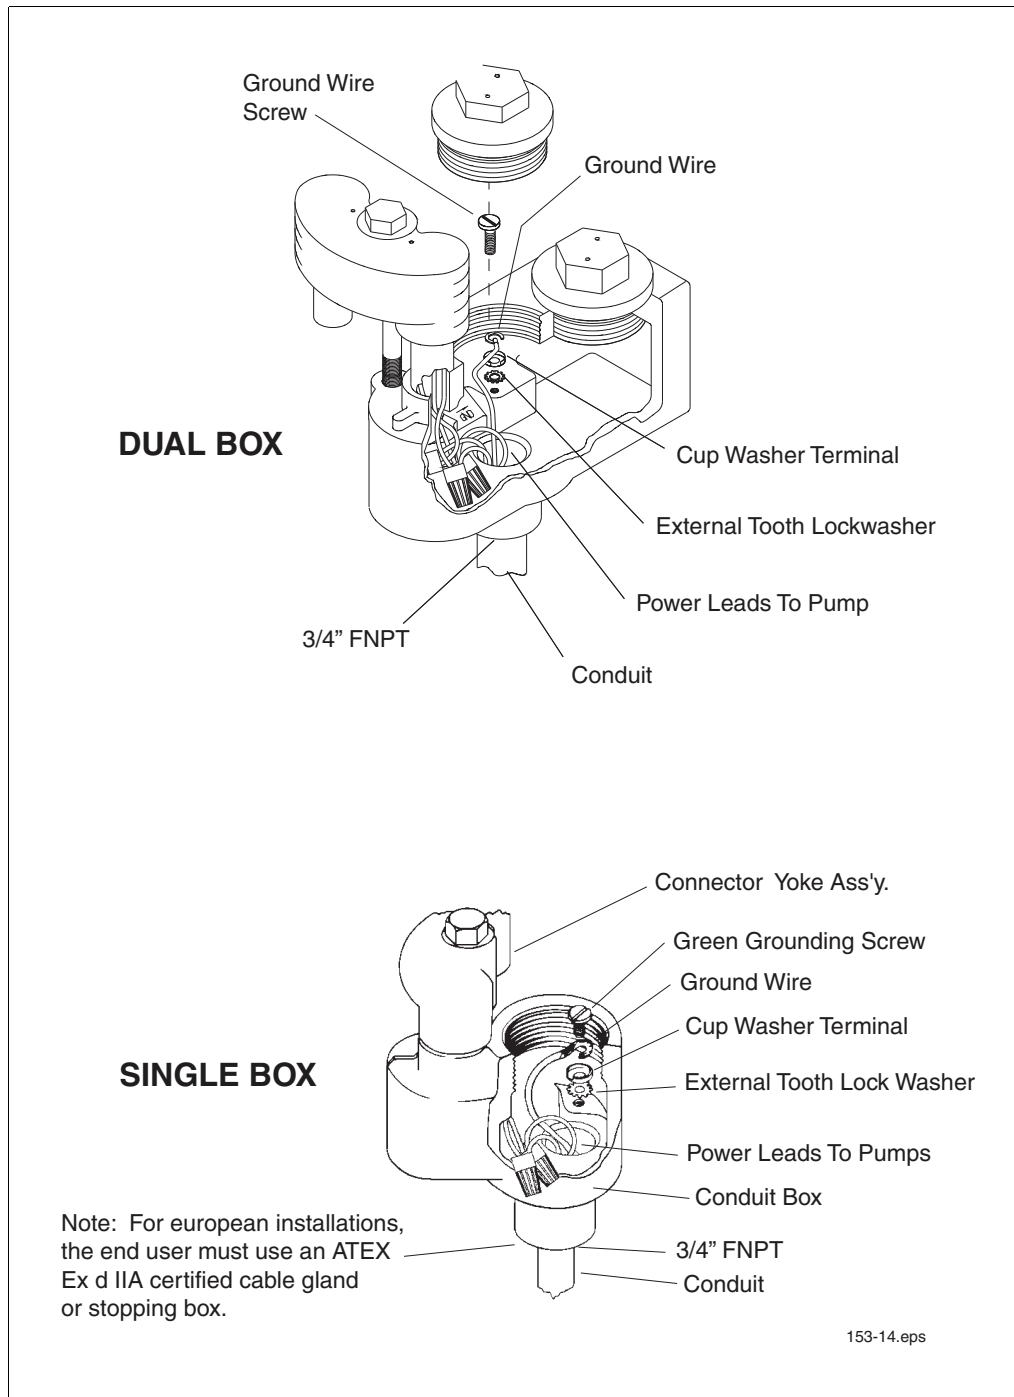

Figure 14. Conduit Box Wiring
3. Connect wires from power supply to wires in the conduit box. Install ground wire from power panel (see Figure 14) as shown. Thread sealant required on single box.